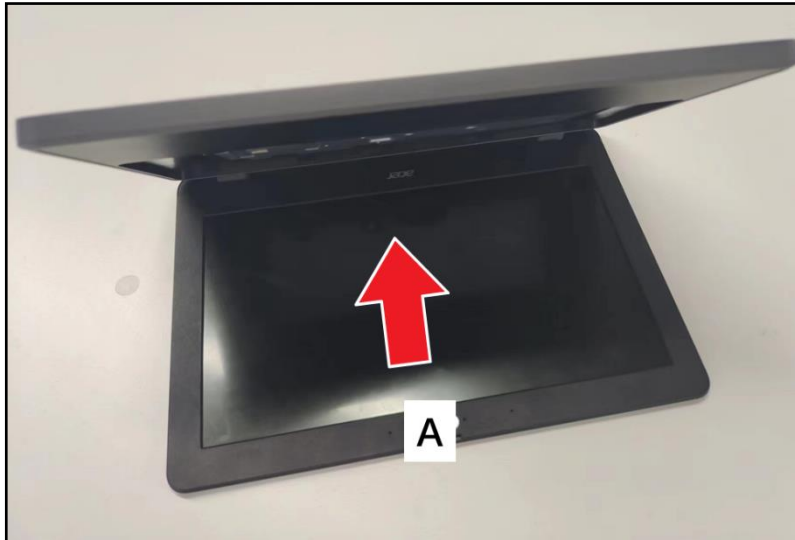

Figure 3-91. Replacing the LCD Module
1. By holding the top assembly upright and the keyboard is facing you, align the top assembly with the LCD hinges slots on the LCD module (A) as shown in Figure 3-91.